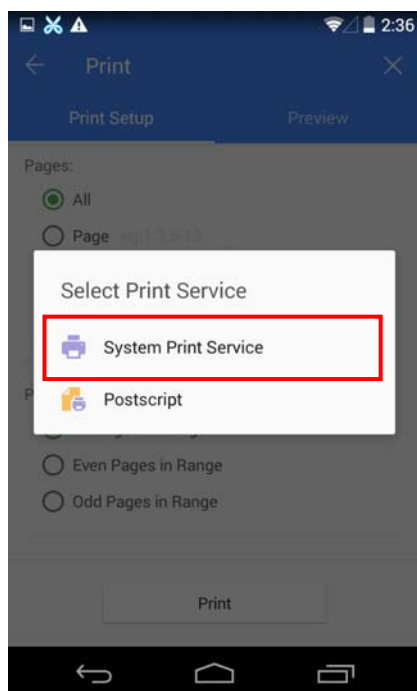

Figure 29
4.5 When the “Select Print Service” interface pops up, select “System Print Service”, as shown in Figure 29.